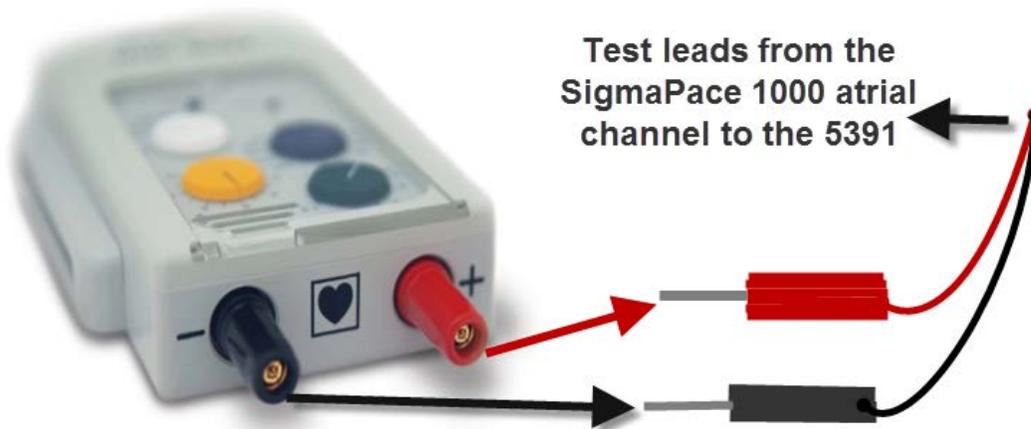

Figure 1
- Connect the FLUKE SigmaPace 1000 atrial channel test leads to the 5391 pacer. Per Fig 1